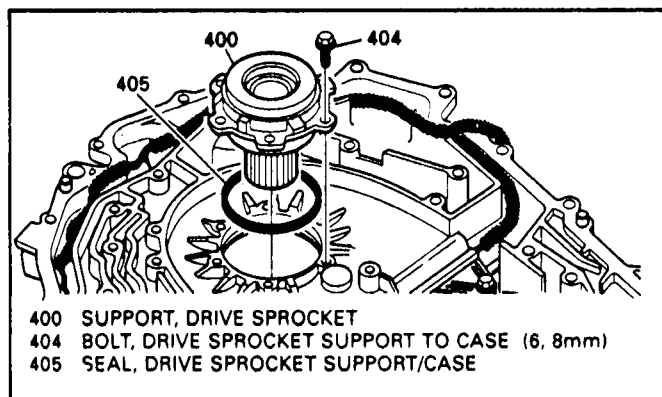

Figure 93
12. Install new seal ring (405) onto the drive sprocket support, and retain with TransJel (See Figure 93).
13. Install six retaining bolts (404) and torque to 9 ft.lbs. (Figure 93).